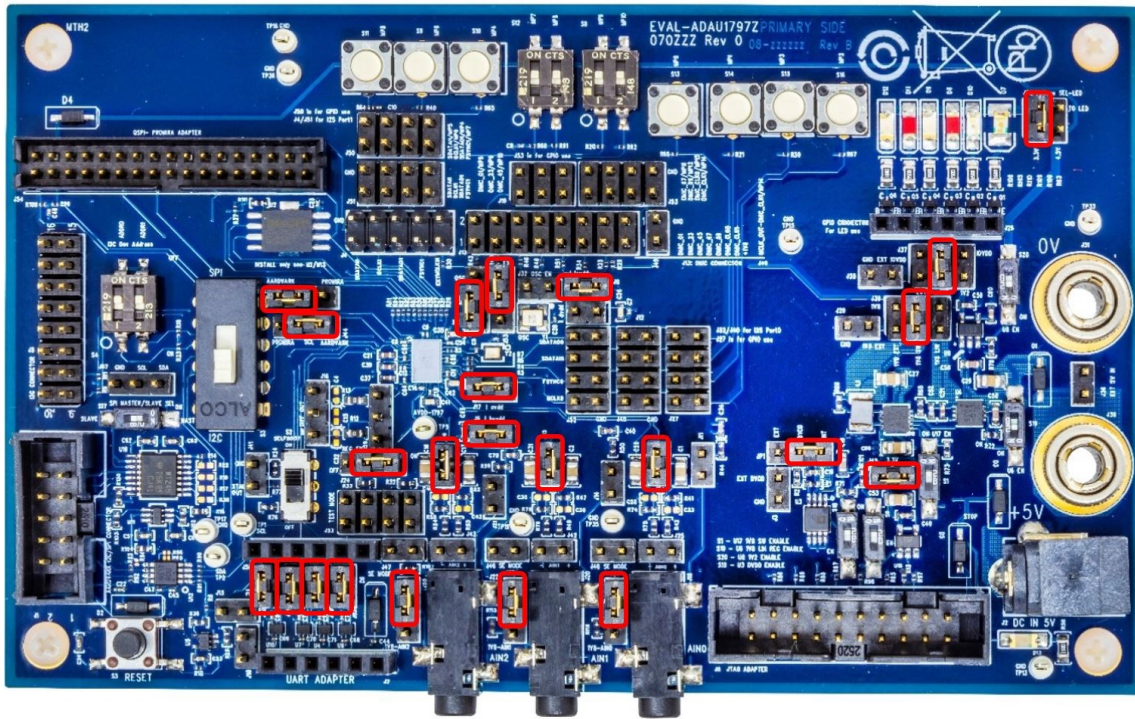

Figure 3. EVAL-ADAU1797Z Evaluation Board Default Jumper Connections
5. Figure 3 shows the default jumper configurations for using the evaluation board. By default, the DVDD is generated internally by the ADAU1797. The part is in I2C mode in this configuration.